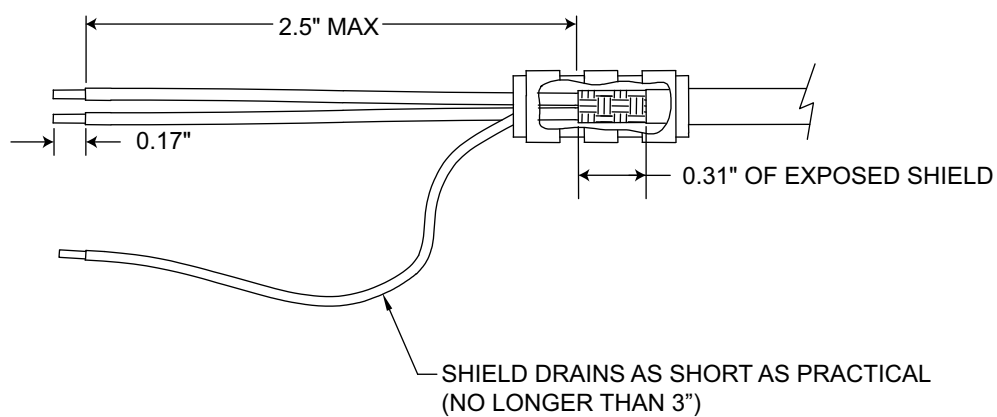
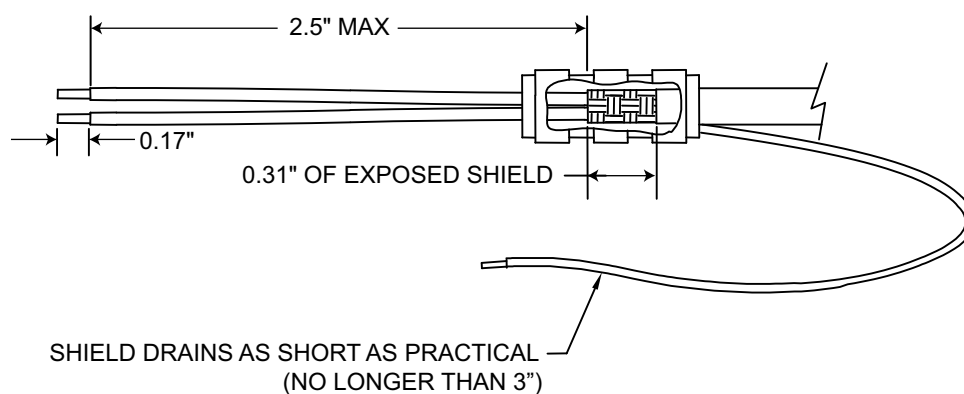
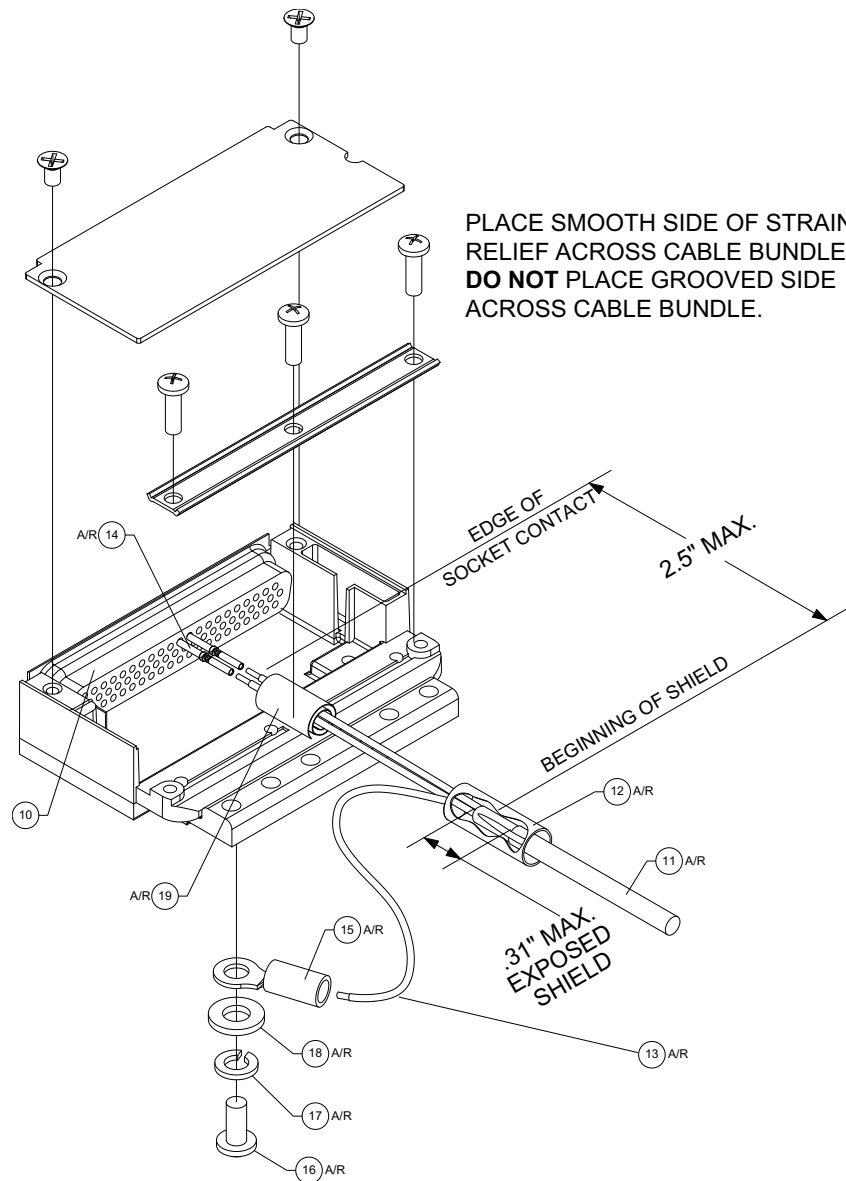

Figure 4-1 Preferred Method
Figure 4-2 Alternate Method
Figure 4-3 Shield Termination on Backshell Assembly
Prepare all of the shielded cables using one of the methods shown in Figure 4-1 or Figure 4-2. Refer to Figure 4-3 for details of the shield termination to the connector backshell.
1. At the end of the shielded cable (11), strip back a 2.5" maximum length of the jacket to expose the braid.
4. Connect a 20 or 22 AWG wire (13) to the exposed shield of the prepared cable assembly. Refer to Figure 4-1 or Figure 4-2. AC 43.13 maybe a helpful reference for termination techniques.
5. Slide a shield terminator (12) onto the prepared cable assembly (11) and connect the shield wire (13) to the shield using a heat gun approved for use with solder sleeves.
6. Crimp contacts (14) onto the cable wires. Refer to Section 4.1.
8. Install a ring terminal (15) onto the cable shield termination wires (13).
Refer to Figure 4-3 and for this procedure.